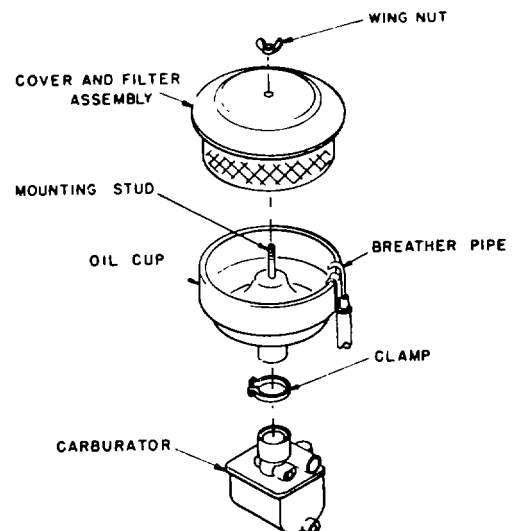

Figure 3-1. Air Cleaner Service
(1) Remove wing nut and lift off cover and filter element as indicated in figure 3-1.
(2) Clean bowl, cover and filter element with an approved cleaning agent.
(3) Fill bowl to oil level with same grade of oil used in engine crankcase.
(4) Replace filter element every 200 hours of operation.
(5) Assemble air cleaner as shown in figure 3-1.